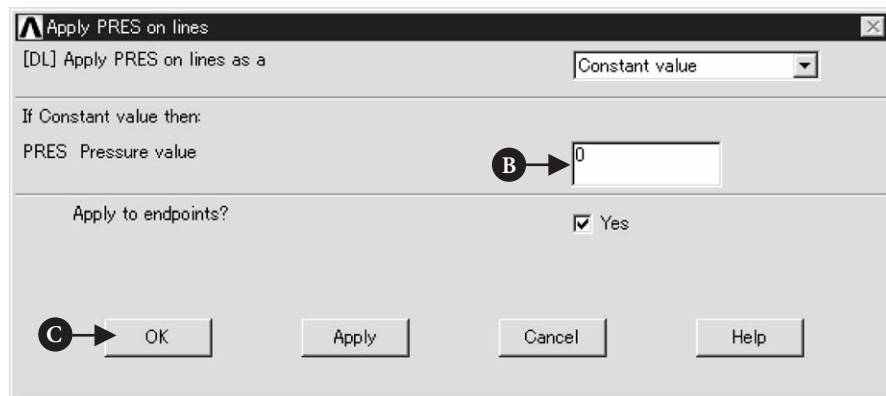

Figure 5.53 Window of Apply PRES on lines.
- (1) Pick **Line 3** and **Line 4** on **ANSYS Graphics** window and click **OK** button. Then the window **Apply PRES on lines** opens (Figure 5.53).
- (2) Input [B] **0** to **PRES** box and close the window by clicking [C] **OK** button.